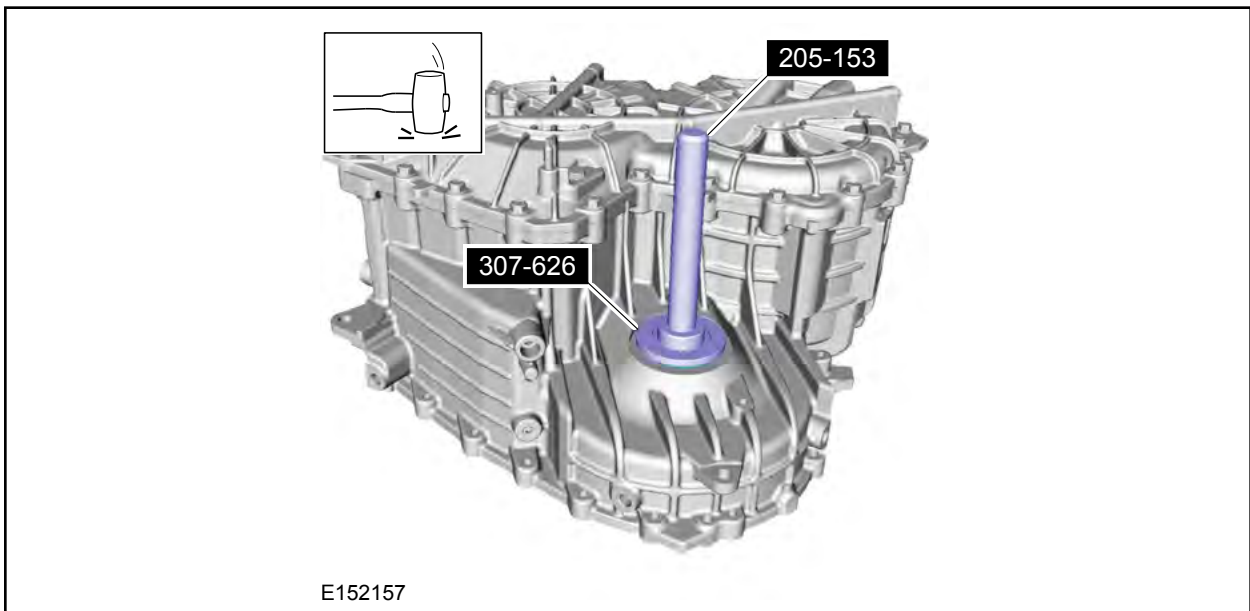

FIGURE 36
31. Using the special tool, install the *new* LH halfshaft seal. See Figure 36.